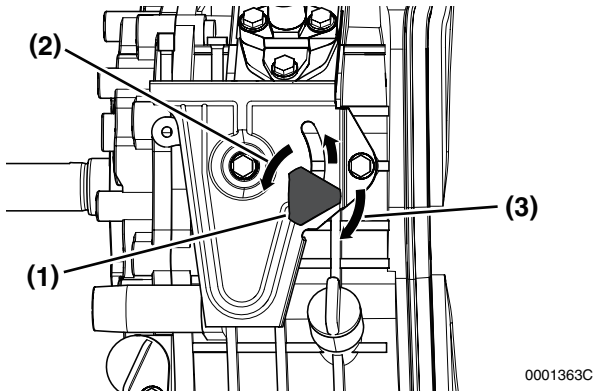

Figure 16
3. If your engine speed control is similar to **Figure 16**:
- (a) Turn the engine speed control knob (**Figure 16, (1)**) to the left (**Figure 16, (2)**).
- (c) Turn the engine speed control knob to the right (**Figure 16, (3)**) to tighten it.